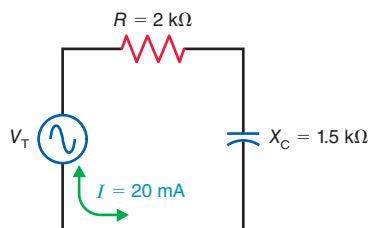

Figure 17-12
- 17.7 In Fig. 17-12, solve for